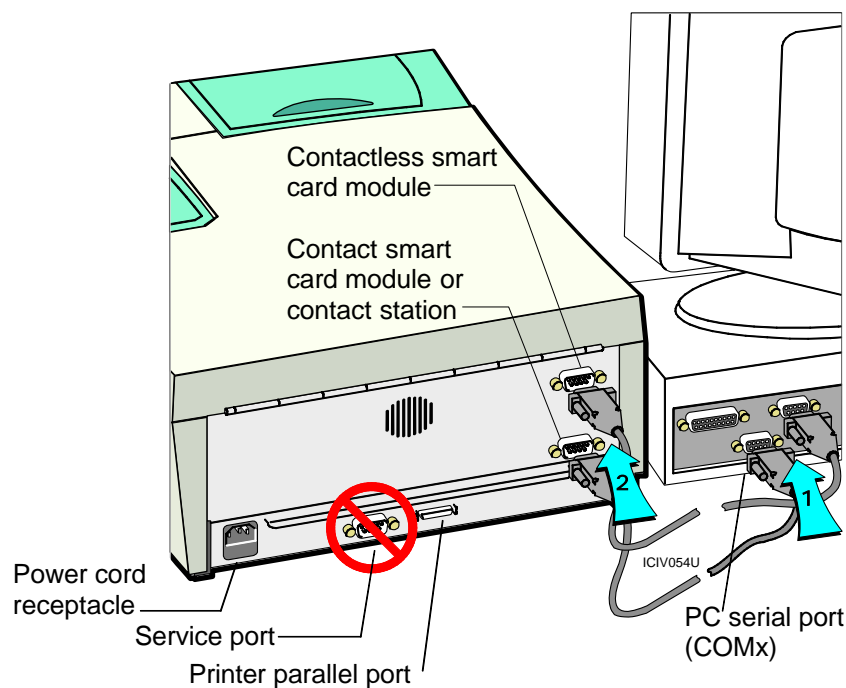

Figure 3-2: Attach the optional smart card serial cable(s)
- a Attach the serial cable to the serial port on the PC (step 1 in Figure 3-2).
- b Attach the other end of the smart card serial cable to the printer (step 2 in Figure 3-2).